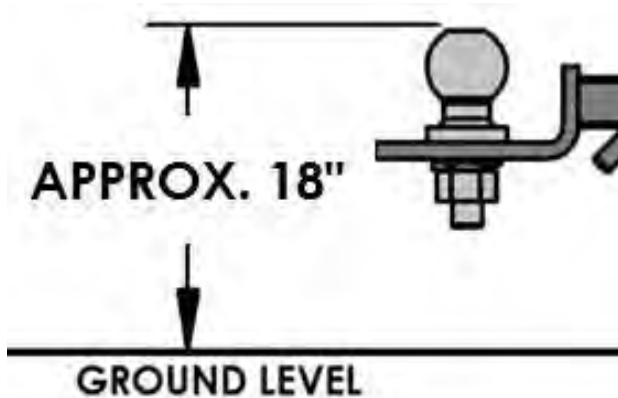

FIGURE 8.1
- The top of the 2" ball should be roughly 18" off the ground for the unit to be level with the ground. The closer to level the Skidder is, the better it will perform. Additional equipment may be required on the tow vehicle to raise or lower the ball. See **FIGURE 8.1**